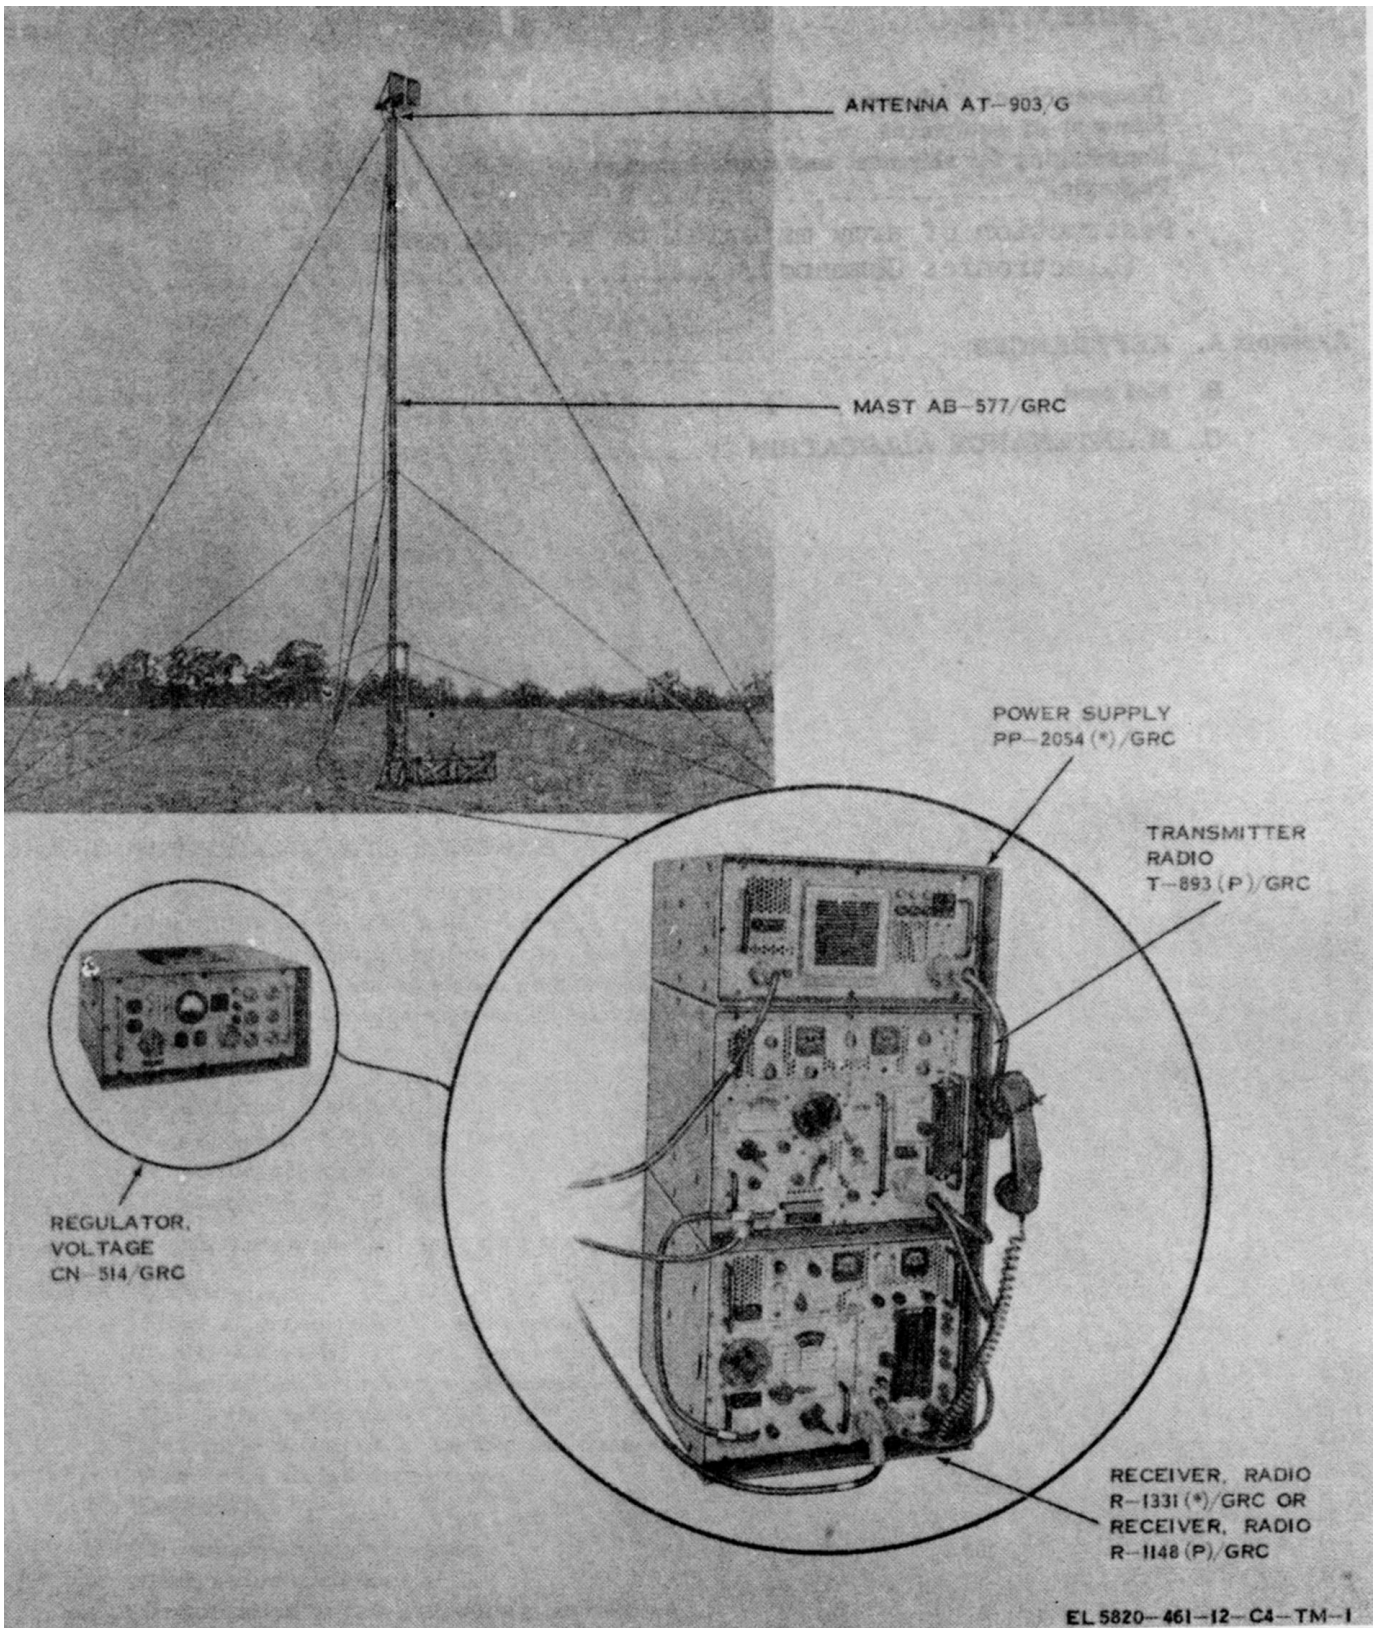

Figure 1-1. Radio Set AN/GRC-50(*) (v) IN operation.
a. This manual describes Radio Sets AN/GRC-50(V) 1, 2, 3, 4, and 5 and AN/GRC-50A(V) 1, 2,3,4, 5, 6, 7, 8, 9, 10, and 11. It covers their installation, operation, and operator's and organizational maintenance. The components of the radio sets are listed in paragraph 1-6.
b. and maintenance of Mast AB-577/GRC (figs. 1-1 and 1-8) are provided in TM 11-5820-538-12 which also includes information on the use of Extension Kit MK-806/GRC which is used to extend the height of the antenna to another 25 feet above the 50-foot height of the AB-577/GRC.
(1) Radio Set AN/GRC-50()/V applies to all configurations of the radio set: AN/GRC-50(V) 1, 2, 3, 4, and 5 and AN/GRC-50A(V)1, 2, 3, 4, 5, 6, 7, 8,9, 10, and 11.
(2) Amplifier-Converter AM-1955()/GRC applies to Amplifier-Converters AM-1955/GRC, AM-1955A/GRC, and AM-1955B/GRC (pare 1-14d).
(3) Amplifier-Converter AM-1956()/GRC applies to Amplifier-Converters AM-1956/GRC, AM-1956A/GRC, and AM-1956B/GRC (pare 1-14d).
(4) Amplifier-Oscillator AM-1958()/GRC applies to Amplifier-Oscillators AM-1958/GRC and AM-1958A/GRC (para 1-14e).
f. All references in this manual to Receiver, Radio R-1331 (*)/GRC also apply to Receiver, Radio R-1331 (P)/GRC, Receivers, Radio R-1331A(P)/GRC, and R-1331B(P)/GRC unless otherwise specified (pare 1-14b and c).